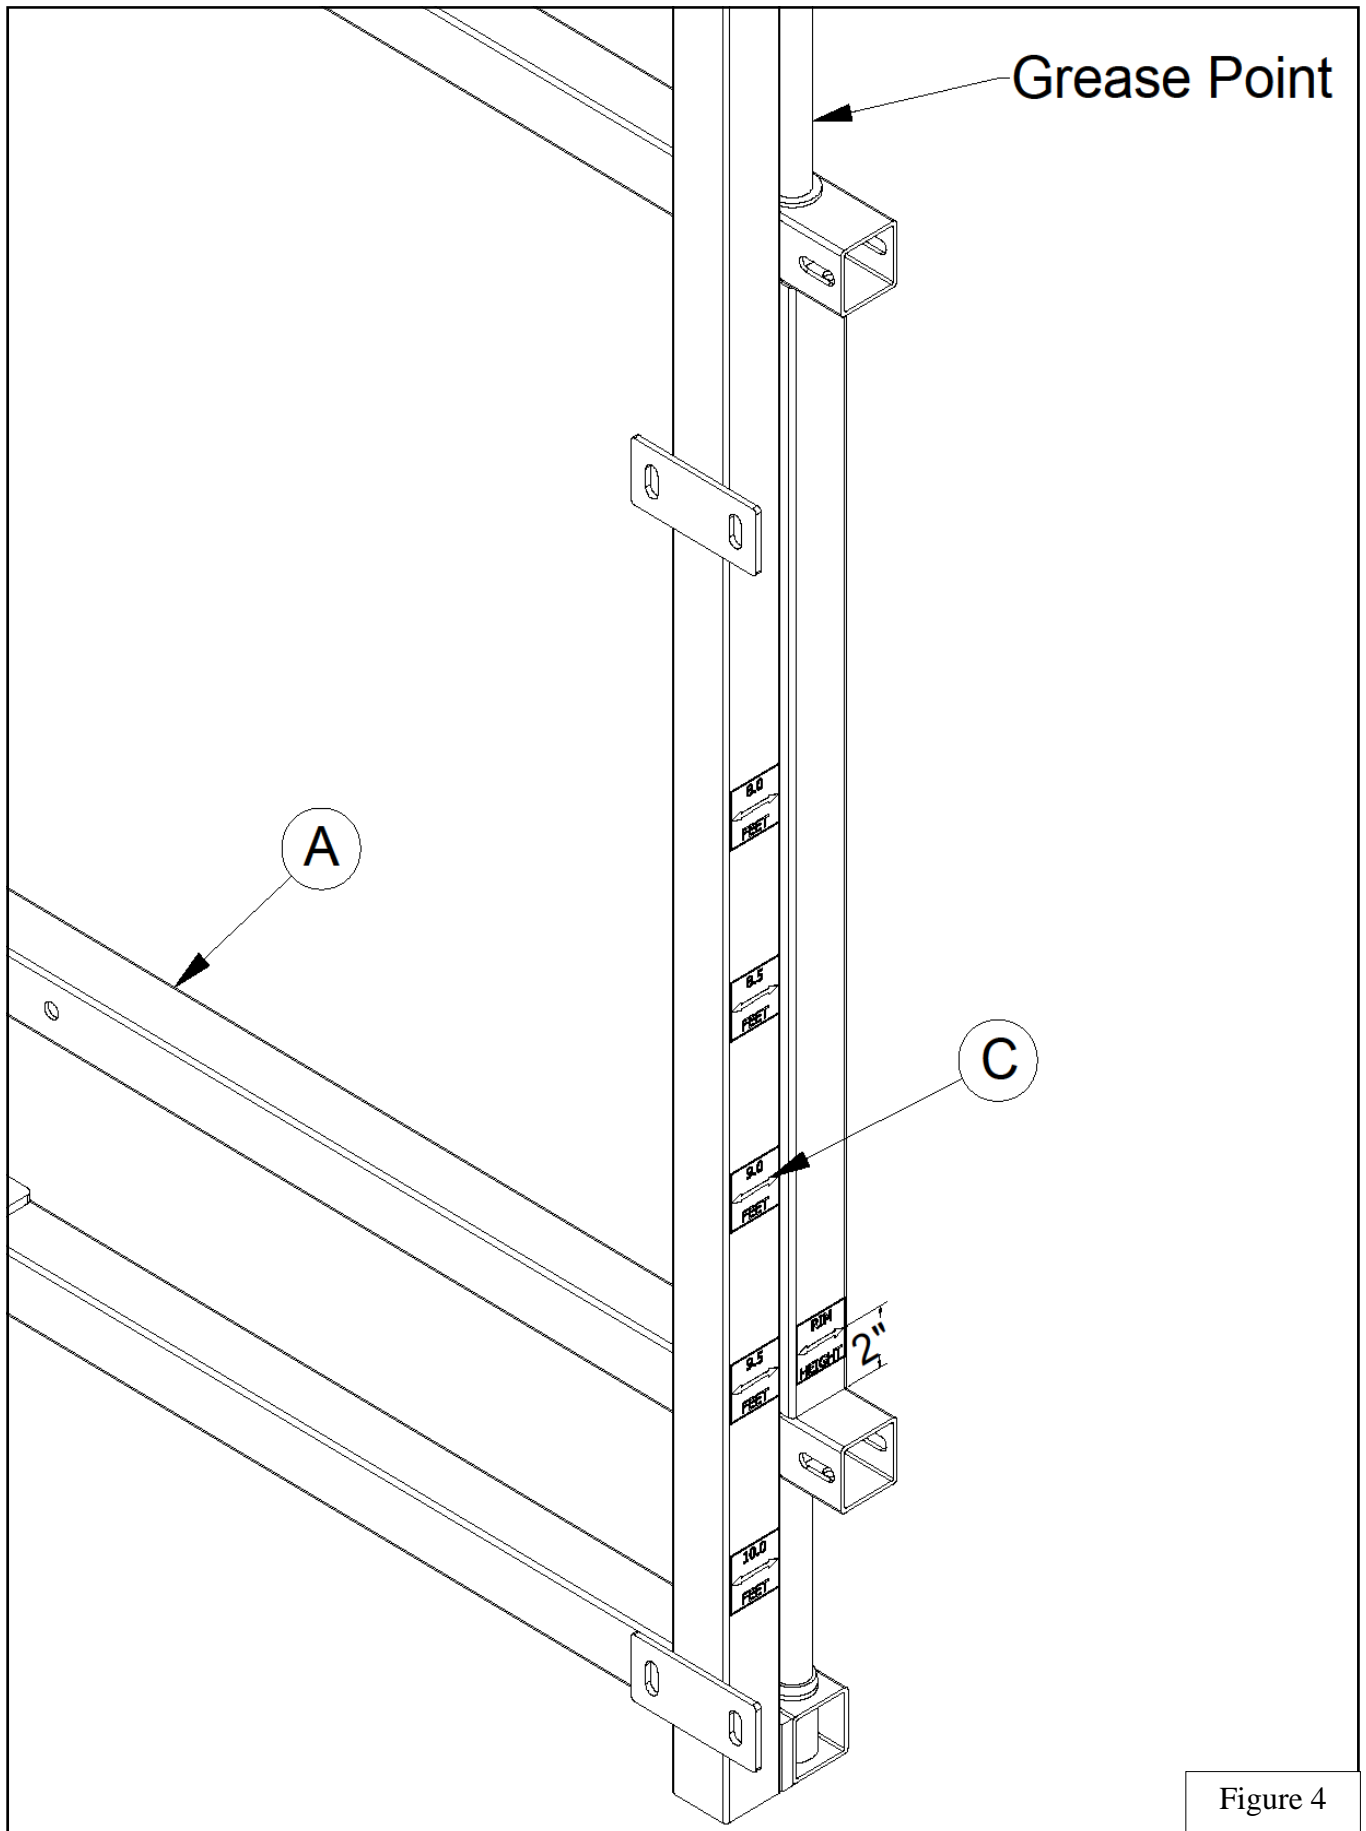

Figure 4
8. Grease the slide assembly by wiping a light film on the grease point annually or as needed to insure smooth adjustment. See Figure 4.